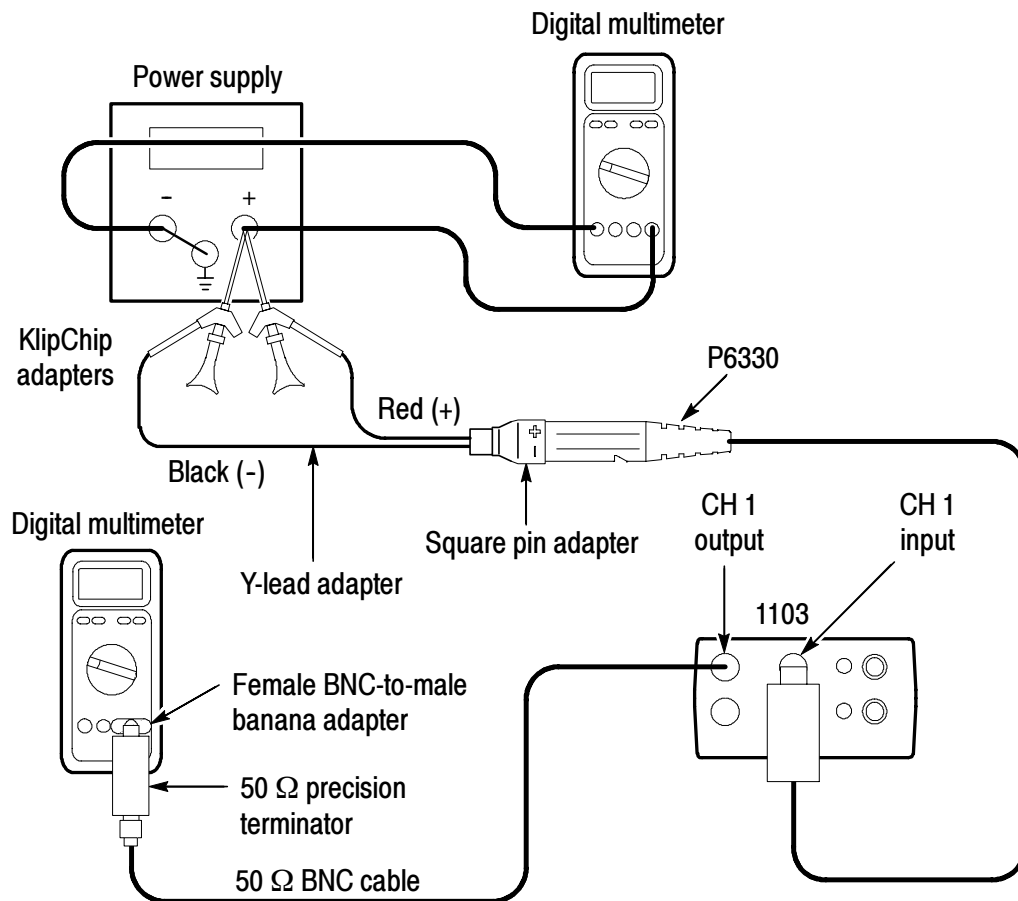

Figure 25: Offset zero and DC CMRR setup
5. Connect the probe as shown in Figure 25 on page 51. Monitor the source voltage with the DMM.